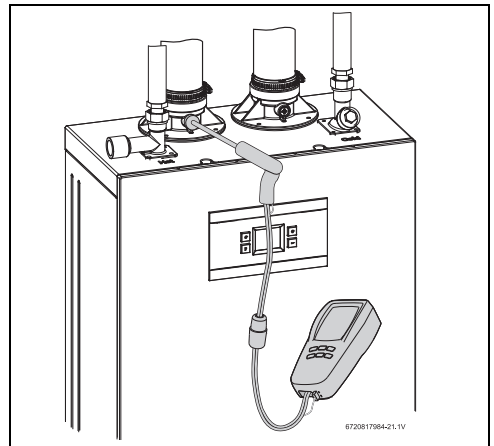

Fig. 62 CO₂ measuring port
- ▶ Remove the screw from the flue adaptor on the left side of the appliance, as seen in fig. 62.